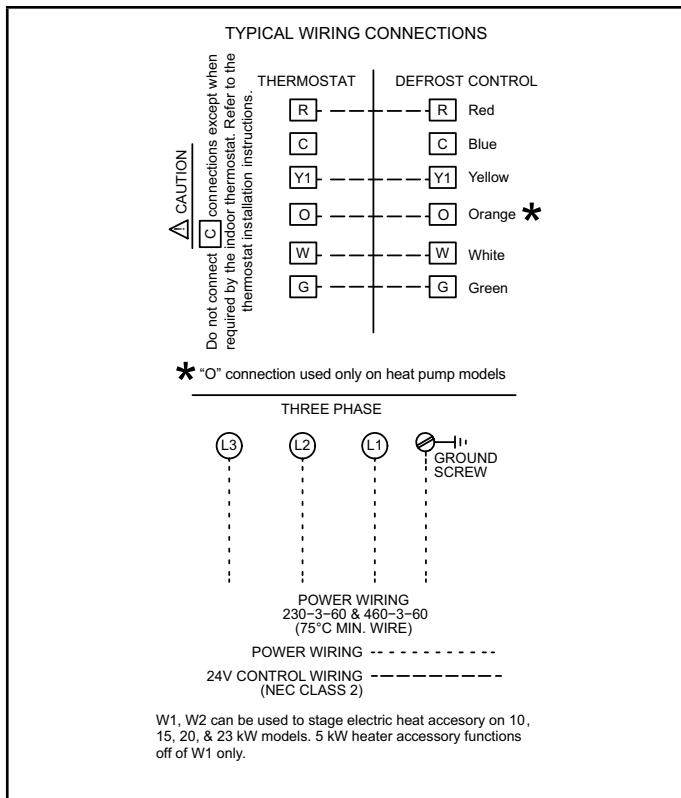

FIGURE 6
- 3 - Connect thermostat wiring to leads in control panel. Wire as shown in FIGURE 6.